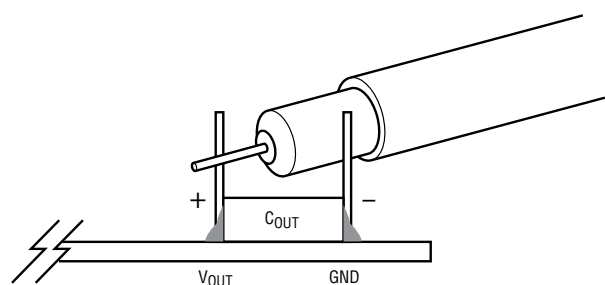

Figure 2. Measuring Output Ripple
**NOTE:** When measuring the input or output voltage ripple, care must be taken to avoid a long ground lead on the oscilloscope probe. See Figure 2 for the proper scope technique.